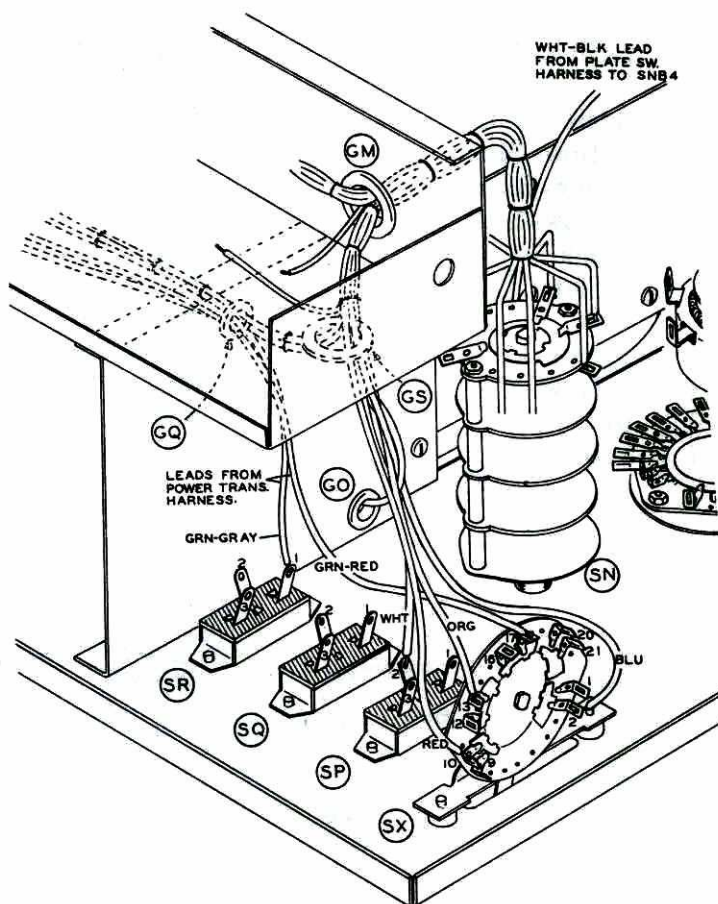

Figure 49
- () Bend the cable harness at right angles to assume the position shown in Figure 49.
Pass all remaining leads through grommet GS. See Figure 49.
- () Pass the green-red and green-gray leads through GP and GQ. See Figure 49.